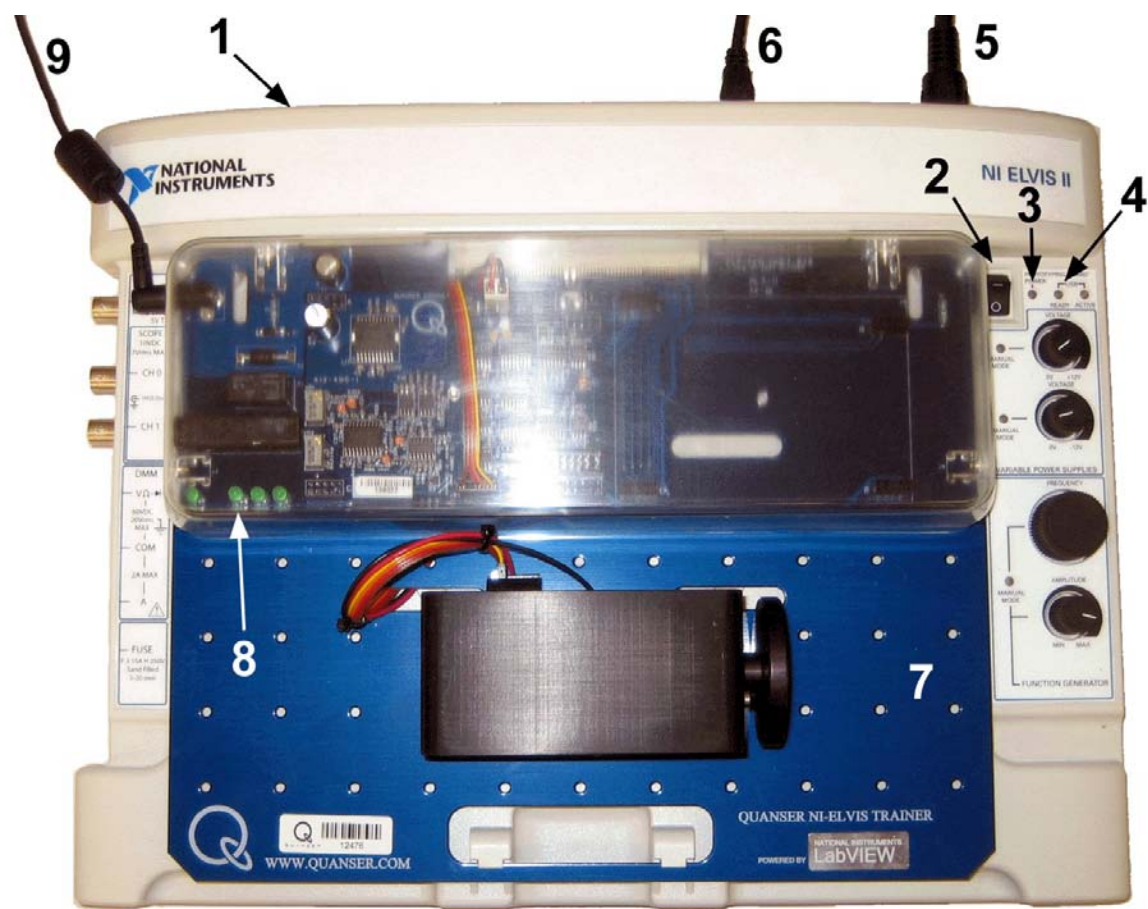

Figure 8: Components on ELVIS II and QNET.
The procedure to install a Quanser Engineering Trainer (QNET) module on the NI ELVIS II is explained in this section. The installed system using the QNET DC Motor module is pictured in Figure 8.
Some of the components used in the installation procedure are located and marked by an ID number in Figure 8 and described in the Table 2, below.
8. Turn ON the *Prototyping Board Power* switch, ID #2 shown in Figure 8.